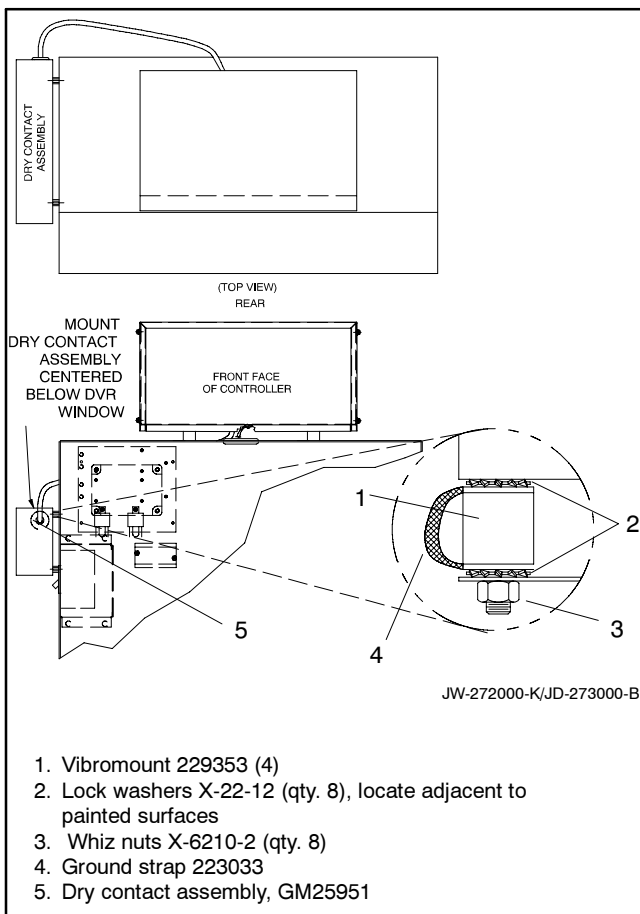

Figure 8 Junction Box Drilling Information (350/400 kW)
- 4.2.1 Drill four 7.1 mm (0.281 in.) diameter holes in the junction box as shown in Figure 8.
- 4.2.4 Mount the ten-relay dry contact assembly (GM25951) to the junction box using four vibromounts (229353), eight lock washers (X-22-12), and eight whiz nuts (X-6210-2). Install the ground strap (223033) as shown in Figure 8.